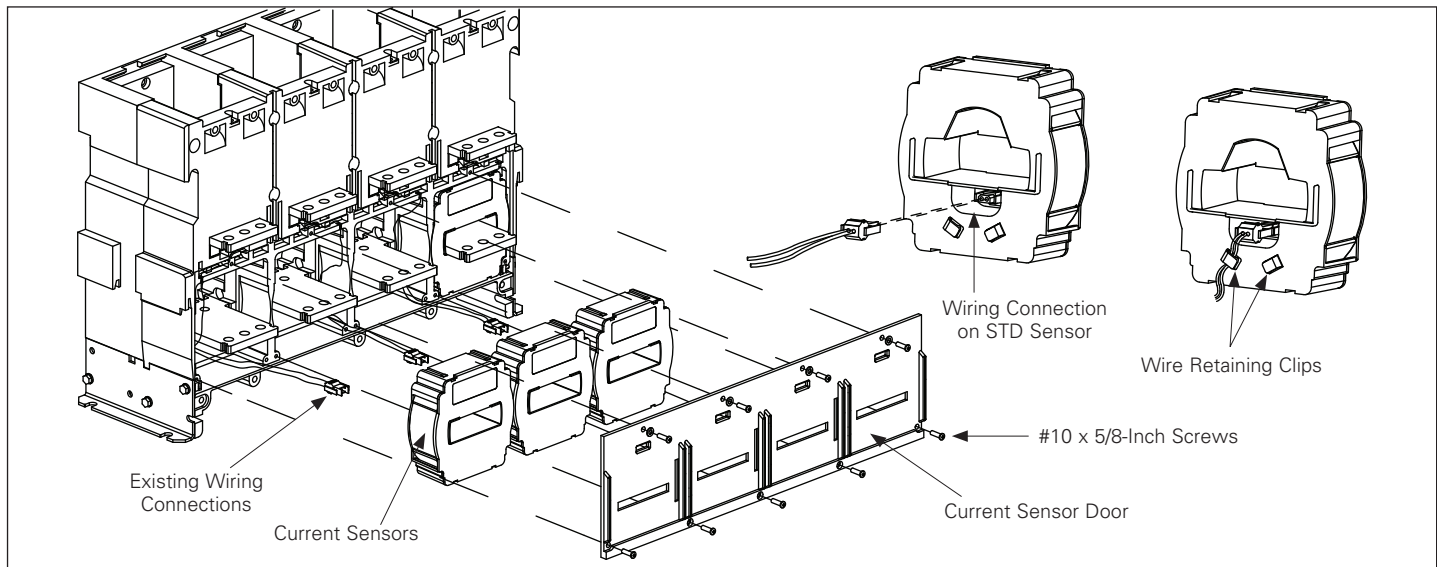

Figure 3. Step 3
Step 3: Install new sensors. Plug new sensors (one required per pole) to existing plug connector. Slide connected sensor into housing as shown in **Figure 3** while feeding wiring into cavity below load conductor terminals.